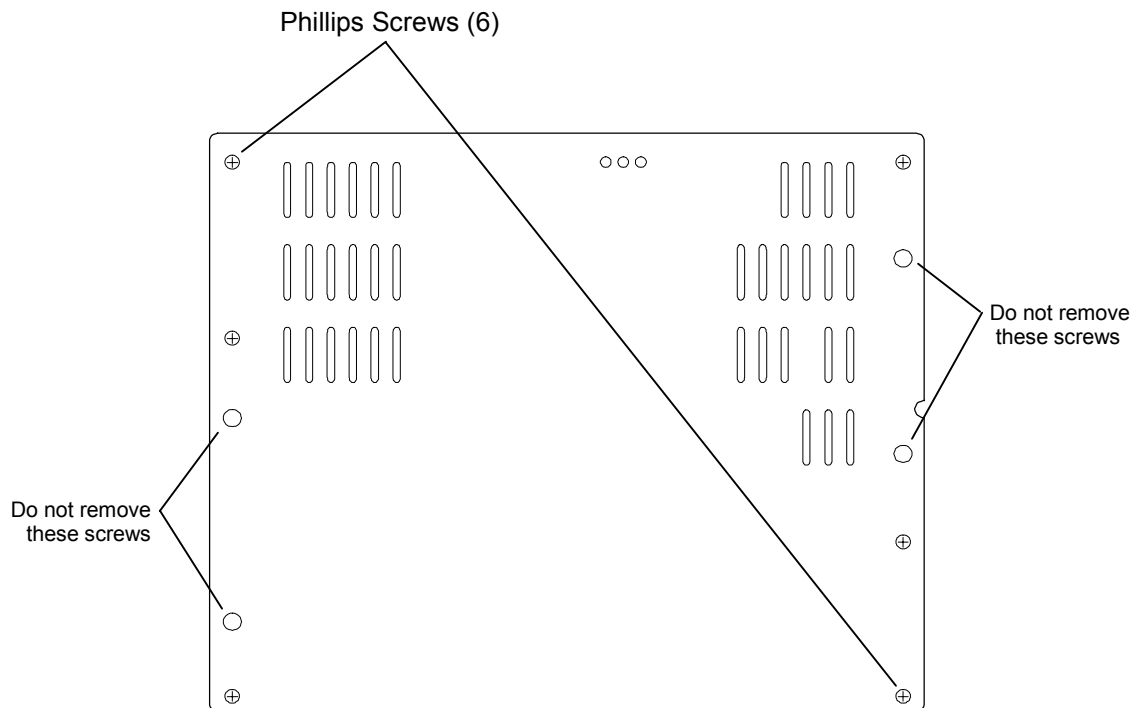

Figure 6-9 Service Panel
2. Using a Phillips screwdriver remove the six screws securing the service panel on the rear of the library – refer to Figure 6-9. Depending of the model of library, the service panel may not have ventilation slots. Care must be taken to not remove the four screws securing the heatsink panels. Save the service panel for possible future use.